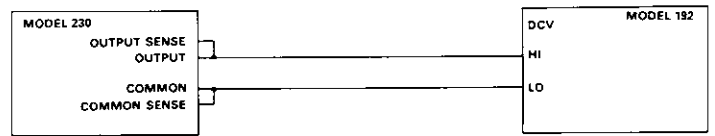

Figure 3-1. Model 230 Performance Verification
1. Set up the test configuration shown in Figure 3-1.